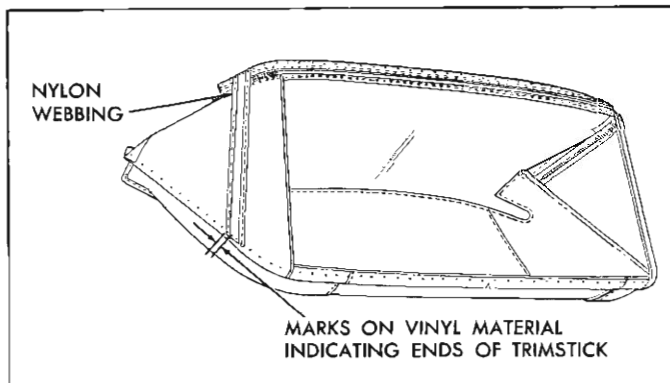

Fig. 58—Marking Back Curtain Material
10. Using a pencil, mark both ends of rear and rear quarter trim sticks on vinyl surface of top material (fig. 58). Reference marks for trim sticks should be transferred to new top material when Step 31 of installation procedure is performed.
15. Using chalk, or other suitable material, mark ends of rear and rear quarter trim sticks on vinyl surface of back curtain material (fig. 58). Reference marks for trim sticks should be transferred to new back curtain material when Step 8 of installation procedure is performed.
16. Remove right and left nylon webbing from rear trim stick (fig. 58).